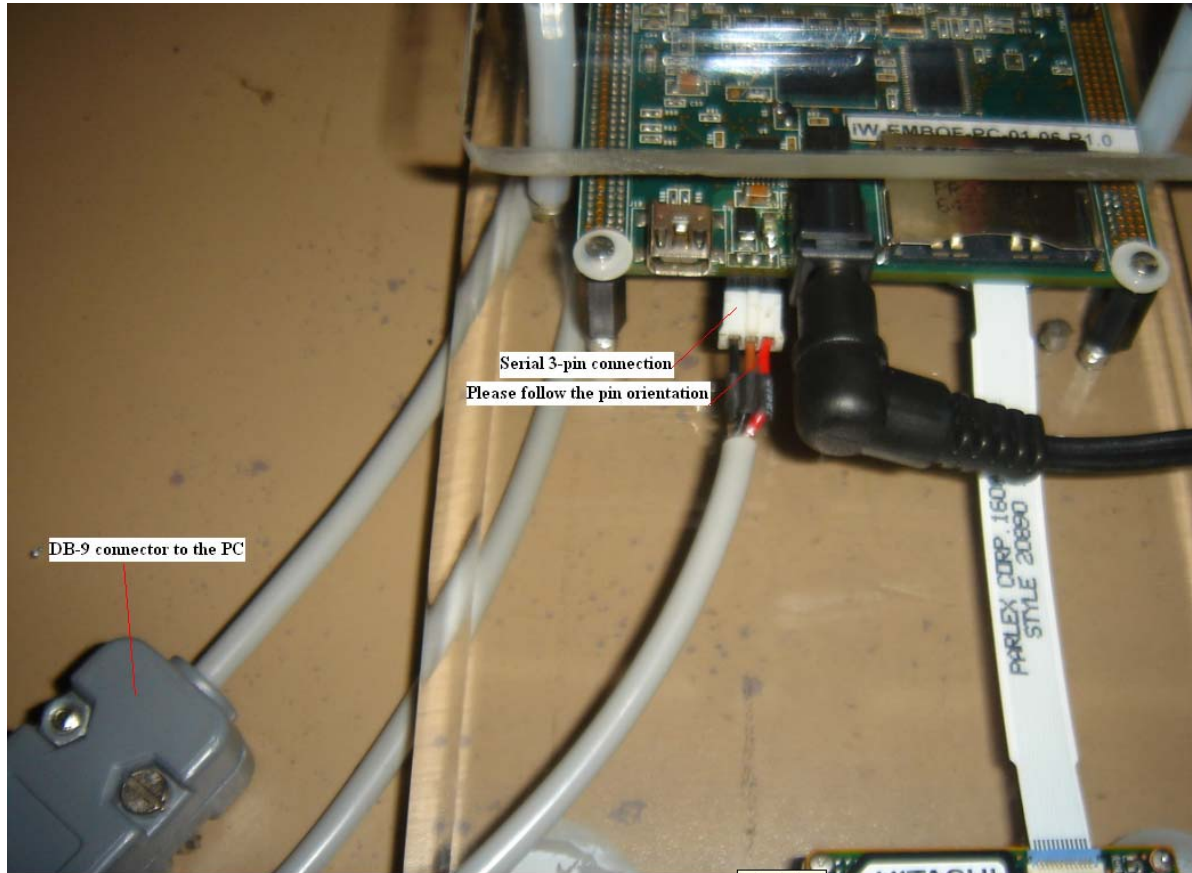

Figure 6: Serial cable connection during the programming of flash
| Figure 6: Serial cable connection during the programming of flash..... | 13 |
- The other end of the serial cable needs to be connected to the Board. Please see the connector position as shown above in the Figure 6